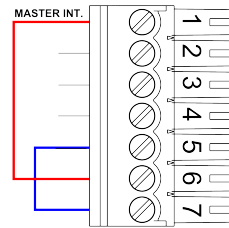

Figure 2.19: Permanently *Interlock*(not recommended)
- Input activated permanently(Fig. 2.19). This connection can be used an initial testing *Digital IN* but is not recommended during normal device operation .